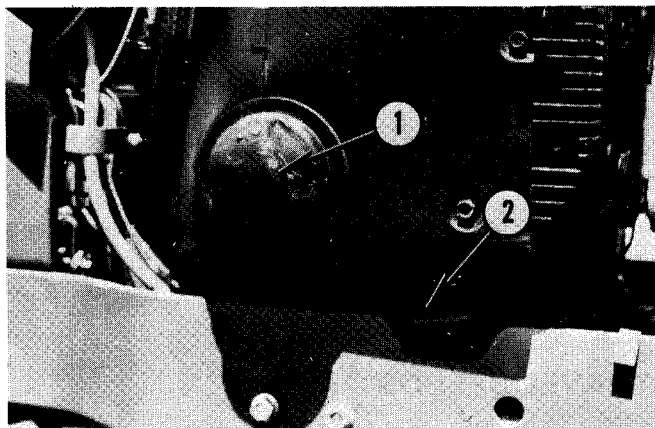

Fig. 10 — Starter Motor Location
a. Never operate starter motor, Fig. 10, continuously for more than 30 seconds. Prolonged operation can damage starter motor. If engine does not start after a few seconds, release ignition key and allow a few moments for starter to cool before again attempting to start.